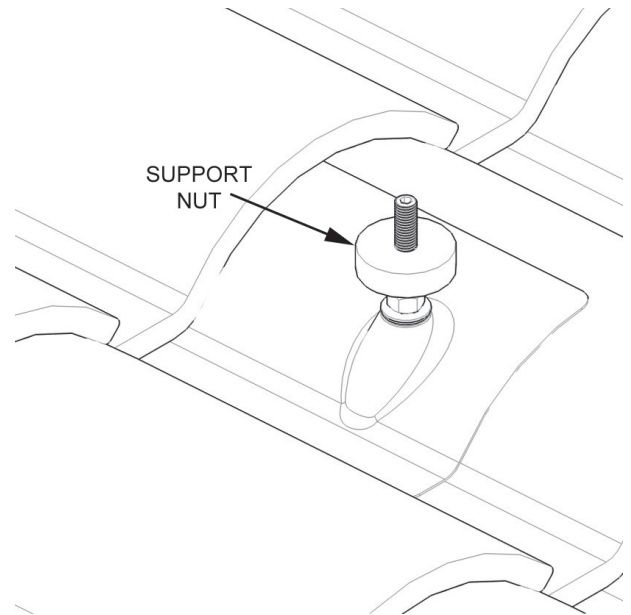

Figure 15.
21. Thread the support nut down the 3/8" all-thread to the desired height. See Figure 15.